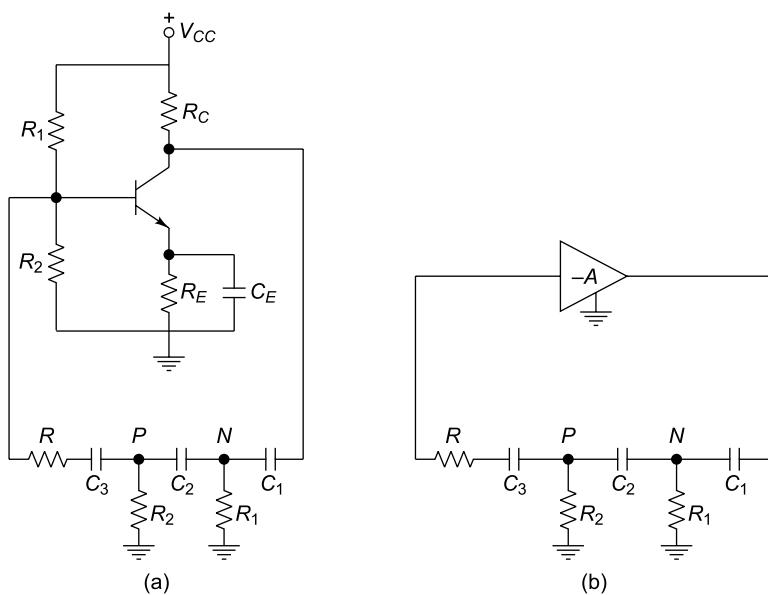
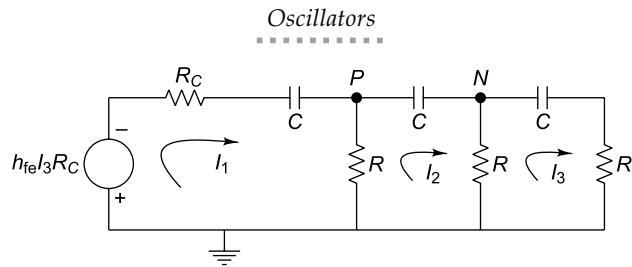

Fig. 3.11 R-C phase shift oscillator using BJT
Fig. 3.14 Simplest ac equivalent circuit of Fig. 3.11
Figure 3.11 shows the BJT phase shift oscillator. The quiescent operating point of the transistor is determined by the resistances R_1 , R_2 , R_C , and R_E and supply voltage V_{CC} . The bypass capacitor C_E is connected in parallel with R_E and provides very small reactance at the low frequency signal. In this circuit, the transistor operates in common emitter configuration and it provides a 180° phase shift between input and output voltages. There are three $R-C$ sections in the circuit and these three $R-C$ sections provide another 180° phase shift. Hence the net phase shift around the loop is 0° or 360° . In this section the detail circuit analysis is explained.
circuit of Fig. 3.11 is shown in Fig. 3.12. As h_{re} is very small, the value of $h_{re} V_2$ may be neglected. As $\frac{1}{h_{oe}} \gg R_C$, we can also neglect $\frac{1}{h_{oe}}$. Then the equivalent circuit is modified as represented by Fig. 3.13. This circuit can be represented in most simplified form as shown in Fig. 3.14. There are three loops and loop currents are I_1 , I_2 and I_3 .
Fig. 3.12 ac equivalent circuit of Fig. 3.11
Fig. 3.13 ac equivalent circuit of Fig. 3.11 when $h_{re} V_2$ and $\frac{1}{h_{oe}}$ are neglected
3.2 Find the frequency of oscillation in an *RC* phase shift oscillator as shown in Fig. 3.11. Assume $R = 20 \text{ k}\Omega$, $C = 0.047 \mu\text{F}$, $R_C = 4.7 \text{ k}\Omega$. Determine the minimum value of current gain for the oscillation.